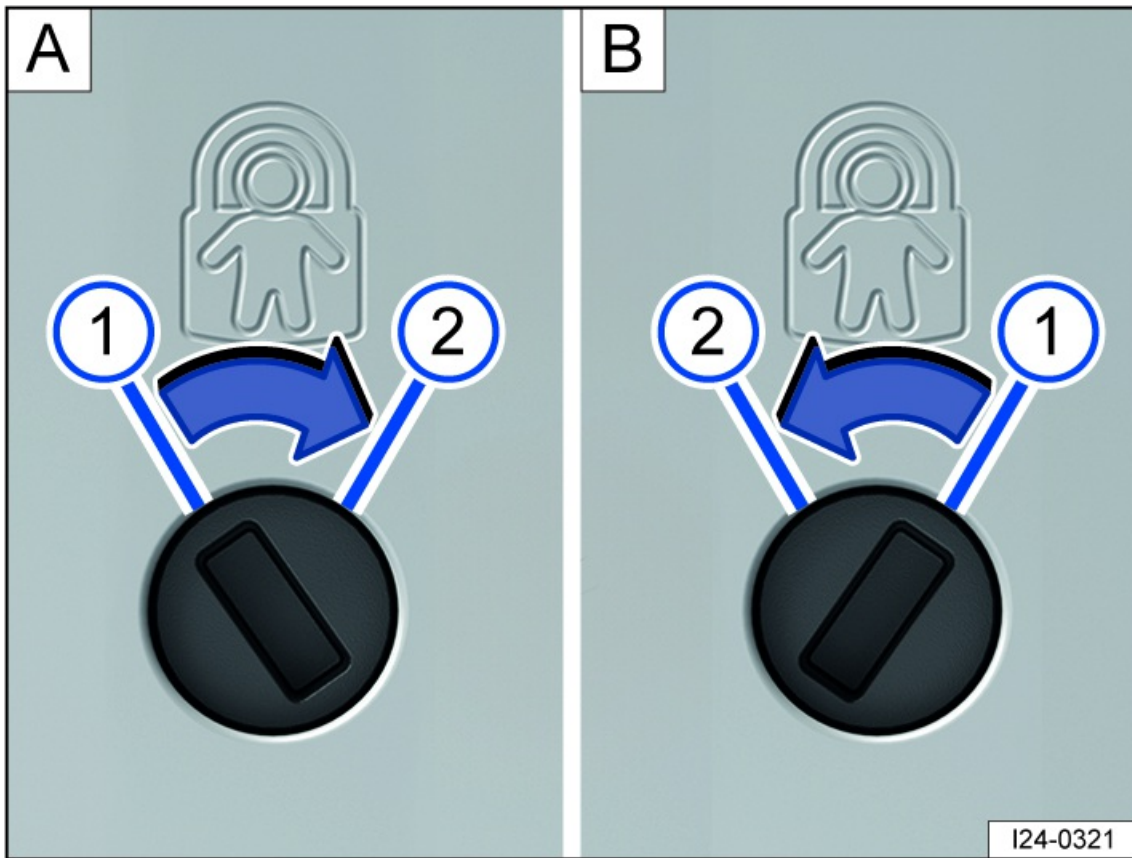

Fig. 46 Child safety lock: **A** left rear door, **B** right rear door.
2. Bring the slot into the corresponding position *fig. 46*.